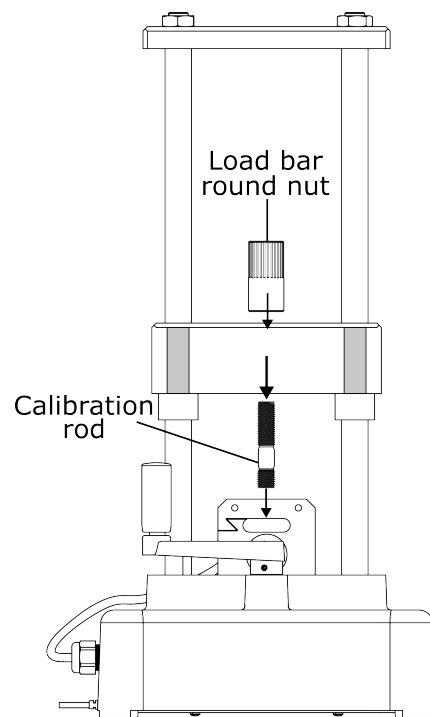

Figure 3: Mounting the calibration rod for tension experiments.
3. Screw the load bar round nut onto the top of the calibration rod. (See Figure 3.)